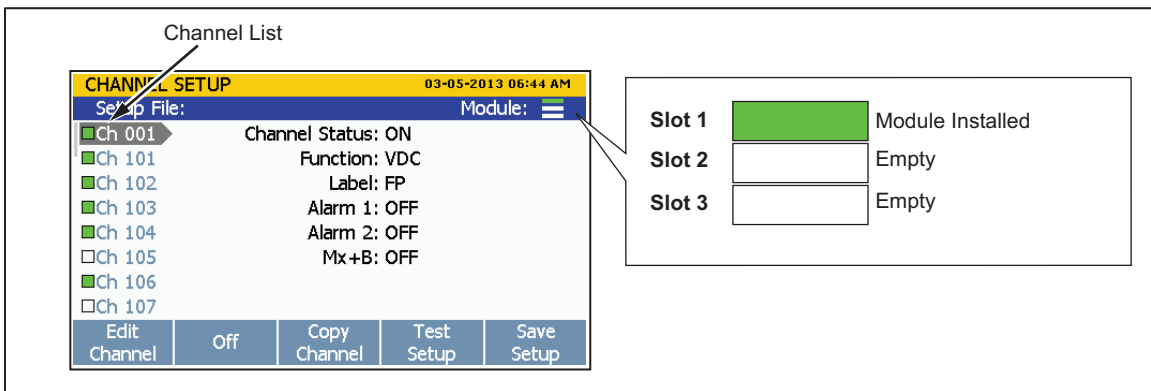

Figure 3-3. Module Indicator (Input Module Installed Shown)
8. Power on the Product with the main power switch. After powered on, the Product tests the connection to the Input Module. If the Input Module is recognized, the module indicator changes to green and shows all channels available on the left side of the Channel Setup menu as shown in Figure 3-3. If the module indicator does not turn green, refer to the troubleshooting information in Chapter 4.